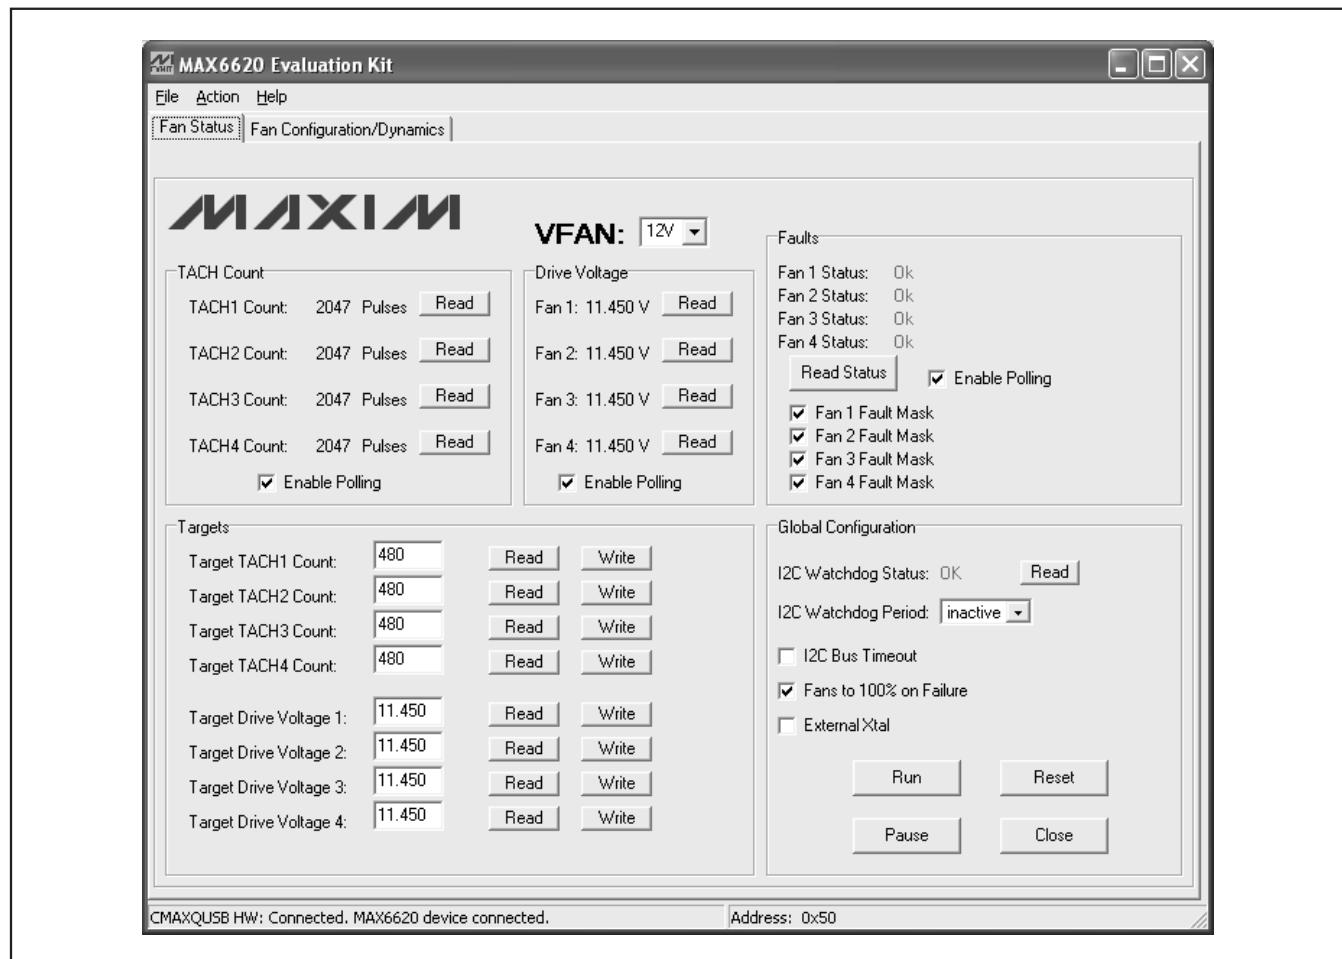
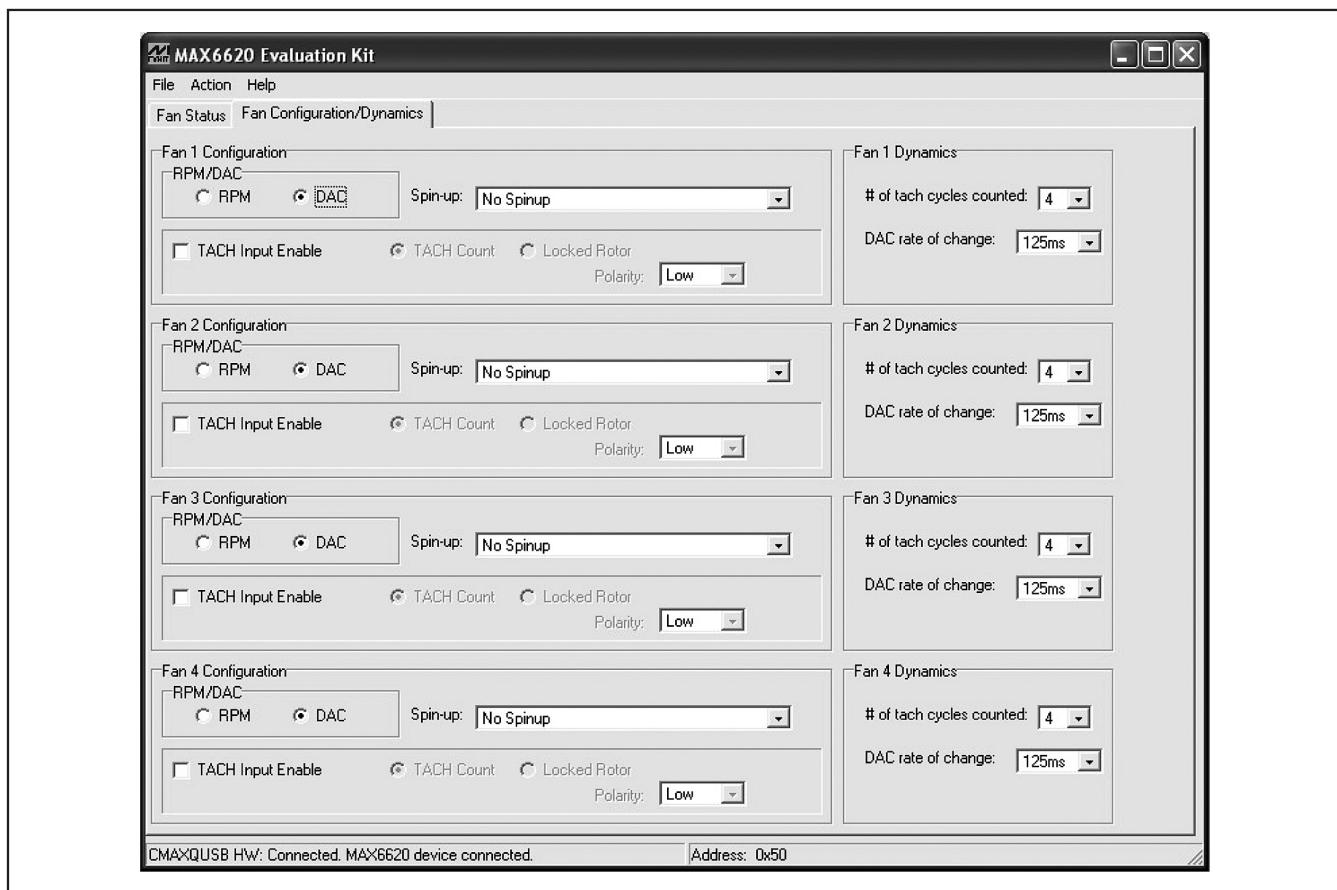

Figure 1. MAX6620 EV Kit Software—Fan Status Tab
Figure 2. MAX6620 EV Kit Software—Fan Configuration/Dynamics Tab
- 10) Normal device operation is verified when **CMAXQUSB HW: Connected. MAX6620 device connected.** is displayed at the bottom left of the MAX6620 EV kit main window (Figure 1).
The program's main window contains two tabs, **Fan Status** and **Fan Configuration/Dynamics**, which provide controls for the MAX6620 EV kit software's configurable features. The **Fan Status** tab sheet (Figure 1) provides controls for the **Global Configuration** register, **TACH Count**, **Drive Voltage**, **Targets**, and **Faults**. The **Fan Configuration/Dynamics** tab sheet (Figure 2) provides controls for **Fan Configuration** and **Fan Dynamics**. A status box is also provided at the bottom of the program's main window and is used to verify command module and device connectivity.
The MAX6620 EV kit software can be configured to work with 5V or 12V DC fans. Manually select the appropriate fan voltage from the **VFAN** drop-down list (Figure 1). The default setting is for use with 12V DC fans.
The **Fan\_ Configuration** group boxes (Figure 2) configure the corresponding fan's **Spin-up** conditions, **TACH Input Enable** settings, and set either RPM or DAC mode.
There are two methods for communicating with the MAX6620, through the normal user-interface panel (Figures 1 and 2), or through the SMBus commands available by selecting the **Interface Diagnostic Window** menu item from the **Action** menu bar. The **Maxim Command Module Interface** window pops up and includes a **2-wire interface** tab that allows for execution of the **SMBusSendByte()** and **SMBusQuick()** commands.